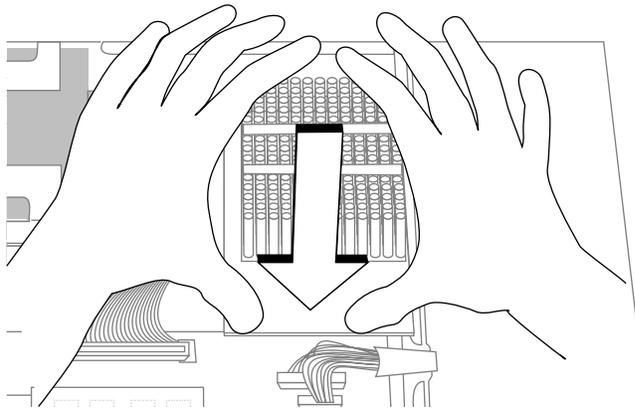

Figure 2-6 Installing the CPU Module
4. Install the new CPU module, as shown in Figure 2-6.